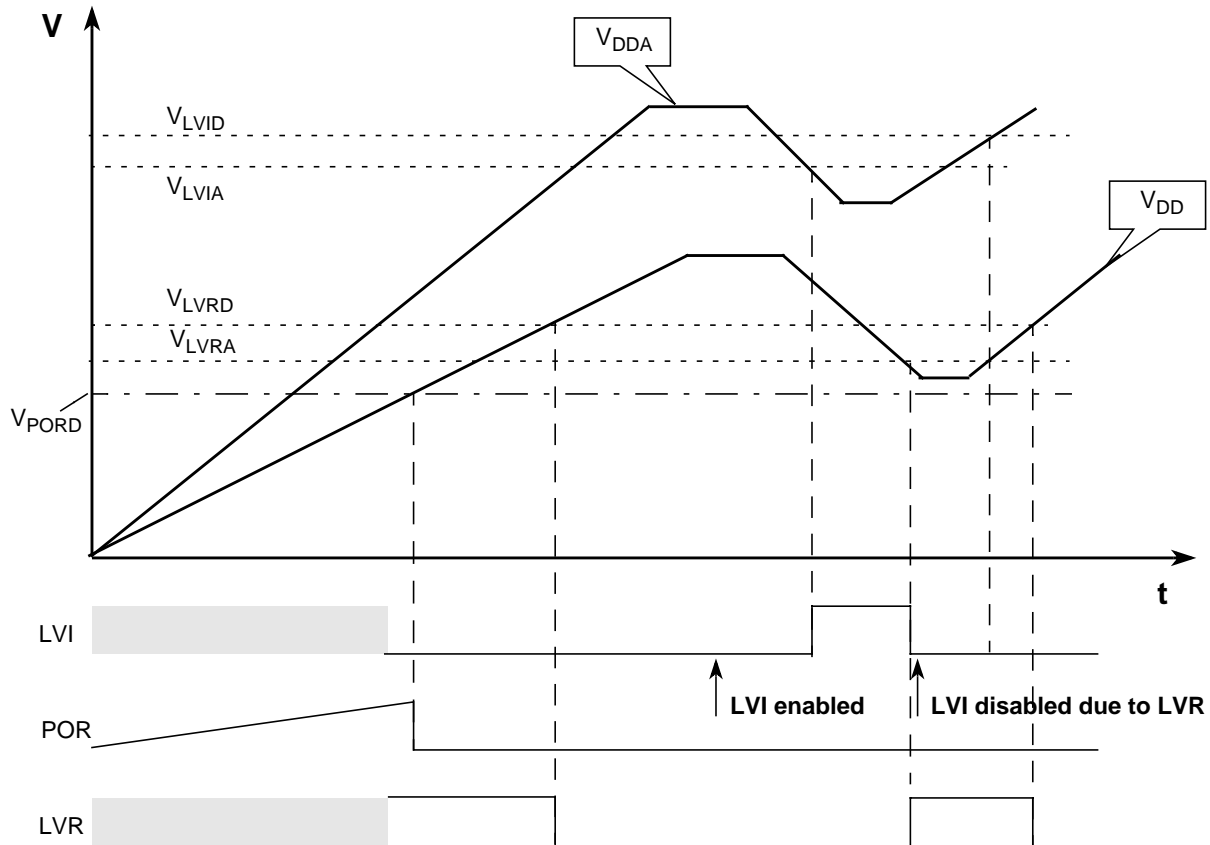

Figure A-10. Voltage Regulator — Chip Power-up and Voltage Drops (not scaled)
2. Monitors  $V_{DD}$ , active only in Full Performance Mode. MCU is monitored by the POR in RPM (see Figure A-10)
Voltage regulator sub modules LVI (low voltage interrupt), POR (power-on reset) and LVR (low voltage reset) handle chip power-up or drops of the supply voltage. Their function is described in Figure A-10.